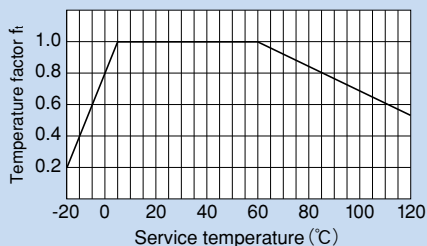

Fig. 3 Temperature Factor
If the temperature of the nut exceeds the normal temperature range, the seizure resistance of the nut and the strength of the material will decrease. Therefore, it is necessary to multiply the dynamic permissible torque (T) and the dynamic permissible thrust (F) by the corresponding temperature factor indicated in Fig. 3.
f_T : Temperature factor (see Fig. 3)